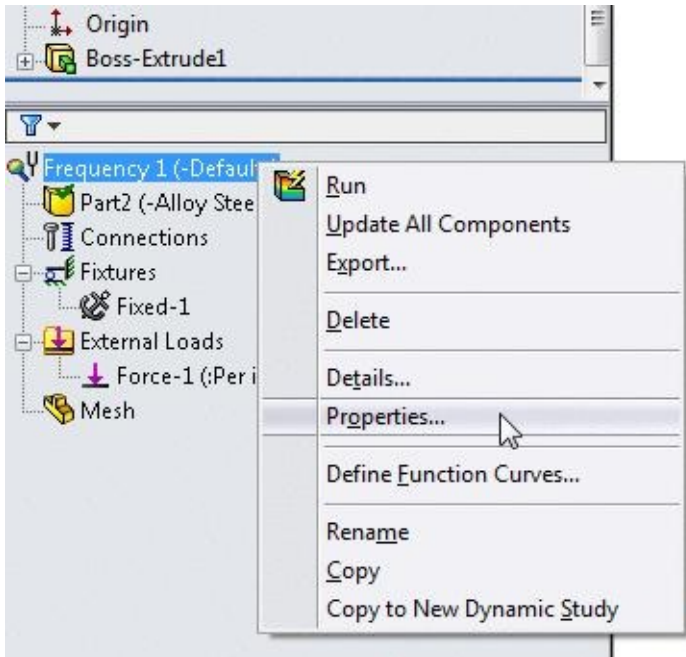

Figure-4. Shortcut menu for properties
- Right-click on the name of analysis in the **Analysis Manager**. A shortcut menu will be displayed; refer to Figure-4.